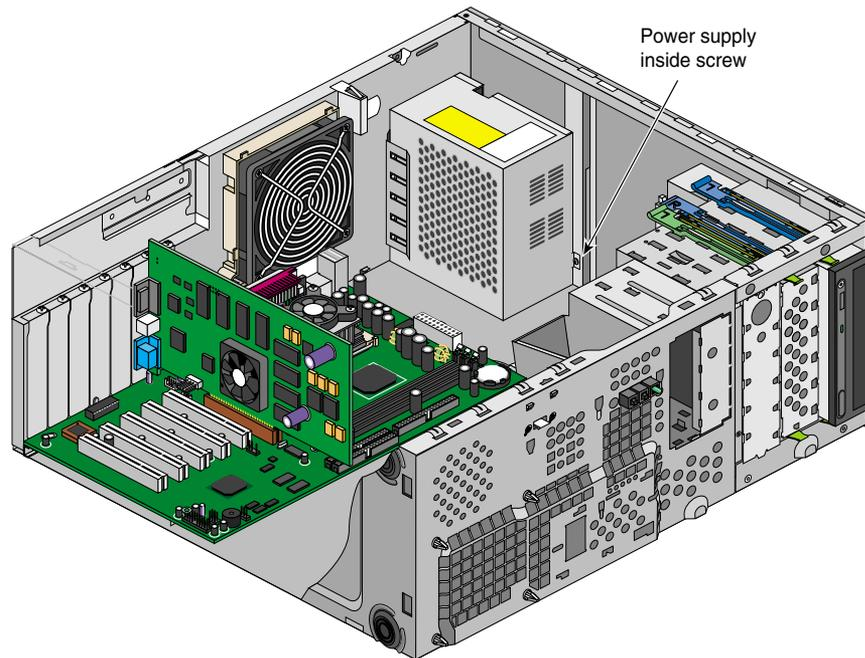

Figure 2-10 Removing Power Supply Inside Screw
6. Remove the screw located on the inside of the system's upper panel. See Figure 2-10 for the location of the screw.
10. Replace the inside screw shown in Figure 2-10.